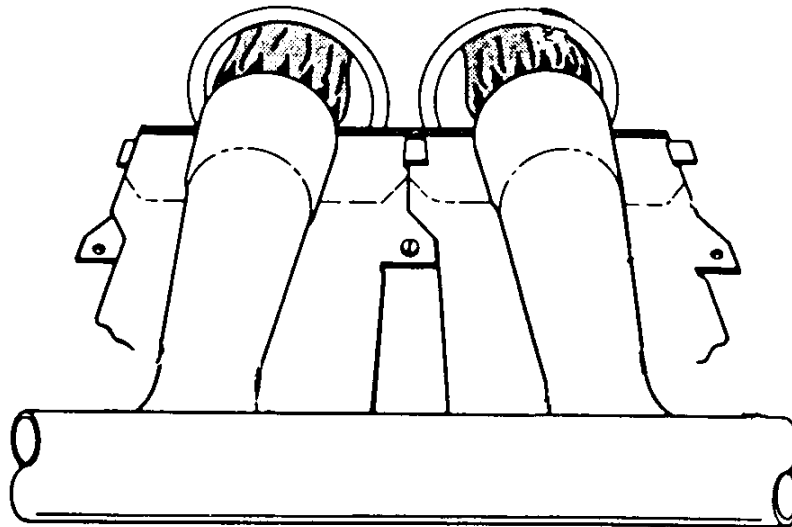

Figure 4. Burner Assembly Inspection
- Remove the control access panel to the unit and visually inspect the burner assembly to ensure that the flame is drawn directly into the center of the heat exchanger tube (see Figure 4).